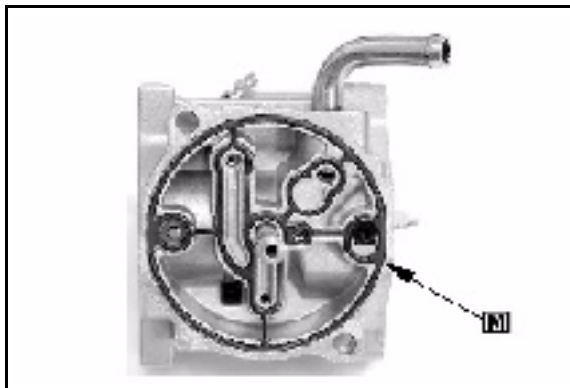

Fig. 134
6. Remove the float base gasket ([M] Fig. 134) from the carburetor body.